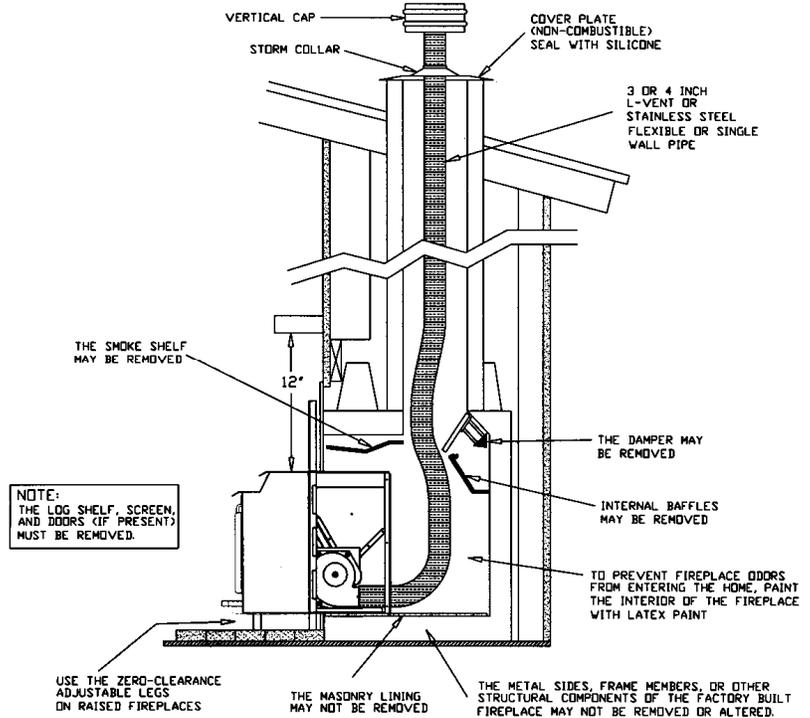

FIGURE 20
E. INSTALLATION INTO A FACTORY BUILT (METAL) FIREPLACE (Refer to figure 20)